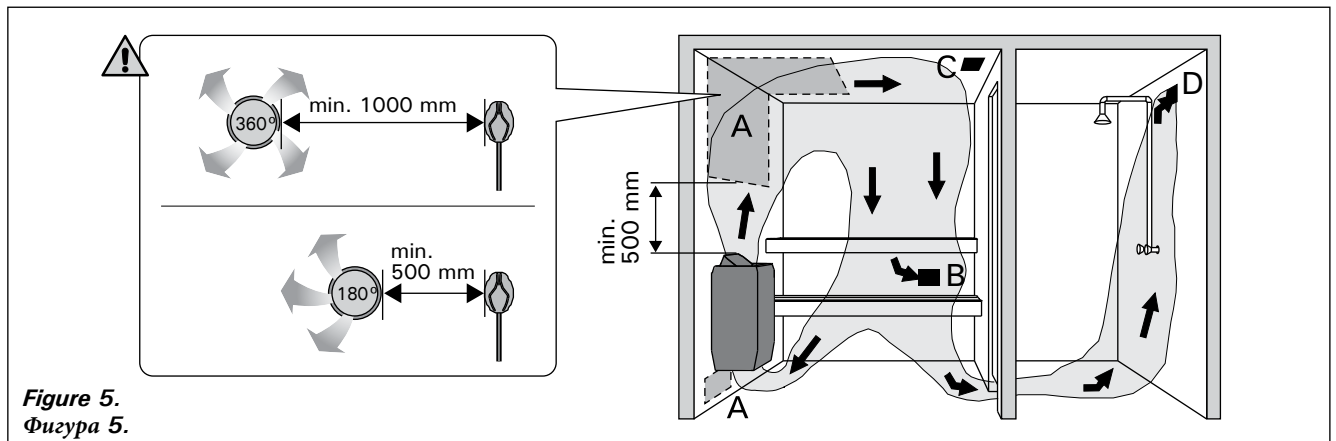

Figure 5.
The air in the sauna room should change six times per hour. Figure 5 illustrates different sauna room ventilation options.
**Do not place the supply air vent so that the air flow cools the temperature sensor. Figure 5.**